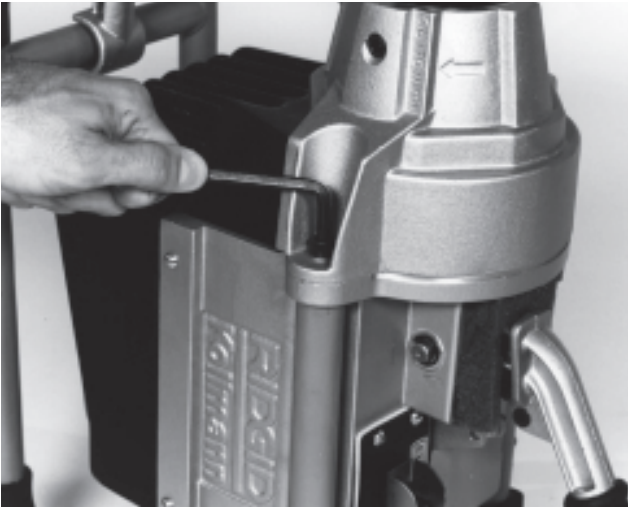

Figure 11 – Remove Socket Head Cap Screws
- Stand the machine up on the front of the frame. Make sure clutch handle is in its uppermost position. Remove the two (2) socket head cap screws from the jaw housing with a 1/4" hex key (*Figure 11*).
1. Stand the machine up on the front of the frame. Make sure clutch handle is in its uppermost position. Remove the two (2) socket head cap screws from the jaw housing with a $\frac{1}{4}$ " hex key. (*Figure 11*)